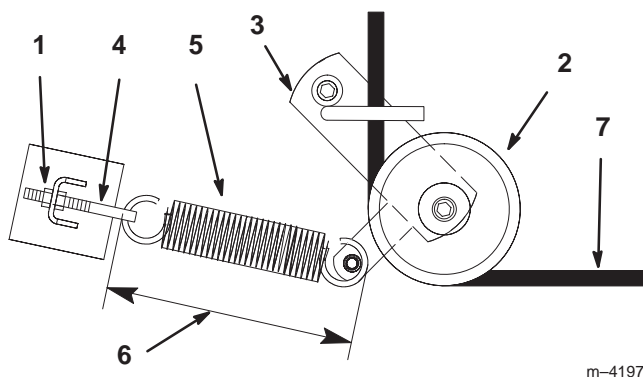

Figure 59
3. Loosen the outer nut on the spring eye bolt (Fig. 59).
5. Remove the spring loaded idler pulley (Fig. 59).
6. Route the new belt through the idler arm (Fig. 59).
8. Tighten the outer nut on the spring eye bolt (Fig. 59).
Note: Check the spring length. The spring should measure 9-3/8 ± 1/8 inch (238 ± 3 mm) when installed. Adjust if it does not (Fig. 59).